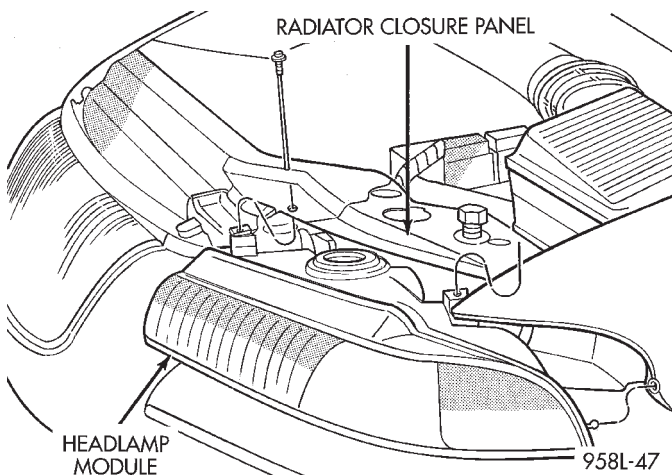

Fig. 1 Headlamp Module
- (1) Release hood latch and open hood.
- (2) Remove screws holding headlamp module to radiator closure panel (Fig. 1).
- (3) Separate headlamp module from radiator closure panel.
- (4) Disengage wire connector from back of headlamp bulb.
- (5) Rotate Park lamp socket counterclockwise one quarter turn.
- (6) Pull socket from back of lamp.
- (7) Separate headlamp module from vehicle.